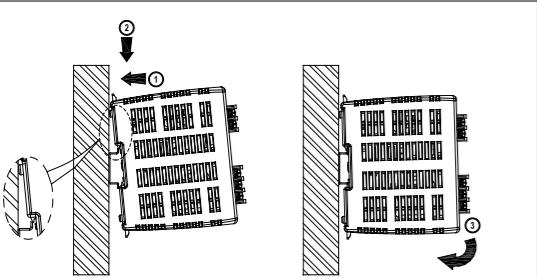

Figure 2
#### 3. Mounting (Fig. 2)
- Snap on the DIN rail as shown in Fig. 2: